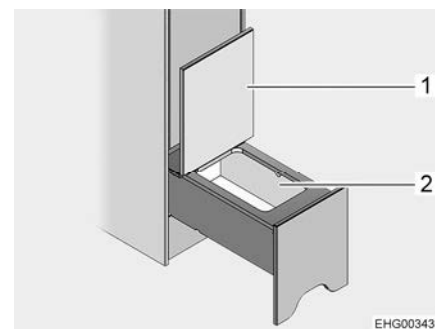

Fig. 125 Storage compartment
- Fold the lid (Fig. 125,1) up. The storage compartment (Fig. 125,2) is accessible.